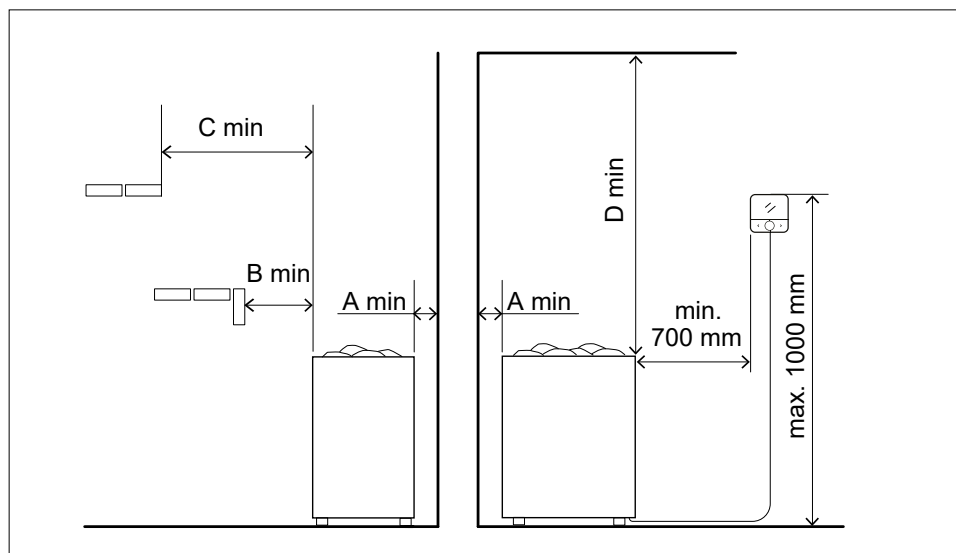

Figure 6.1-1. Minimum safety distances
A heater guard can be built around the sauna heater if necessary, and its design must always comply with the minimum safety distances from combustible materials as specified in the instructions (Figure 6.1-1 and Table 6.1-1). Improper installation poses a fire hazard.
- The heater may also be installed in a wall recess, in which case the safety distances as shown in Figure 6.1-1 must be observed..
- The control unit must not be installed in a location where the temperature exceeds 80°C maximum temperature. If the control unit is installed in the steam room, the installation location must be at least the minimum protection distance (0.7 m) from the heater and at most one meter (1 m) above the floor (Figure 6.1-1).